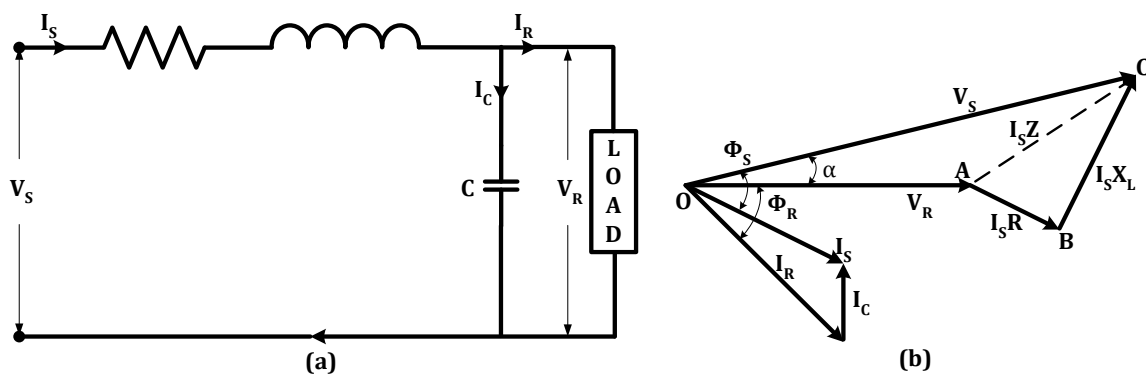

Figure 1.3 End Condenser Method (a) Circuit and (b) Vector Diagram
- In this method, the capacitance of the line is lumped or concentrated at the receiving end of the line as shown in fig. 1.3(a)
Taking V_R as the reference phasor, the phasor diagram is shown in the fig. 1.3(b)